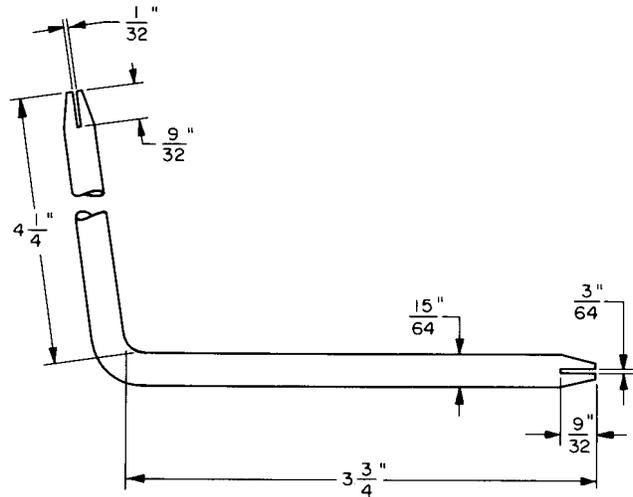

Fig. 6—143 Adjuster Tool
2.06 **143:** The 143 tool (Fig. 6) is a general purpose spring adjuster for horizontal type keys.